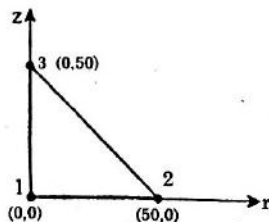

Fig 14(a)
- (b) Derive the expression of shape function for heat transfer in 2D element. (16)
14. (a) Determine the stiffness matrix for the axisymmetric element shown in Fig 14(a). Take E is 2.1×10^5 N/mm², $\nu = 0.25$. The coordinates are in mm. (16)